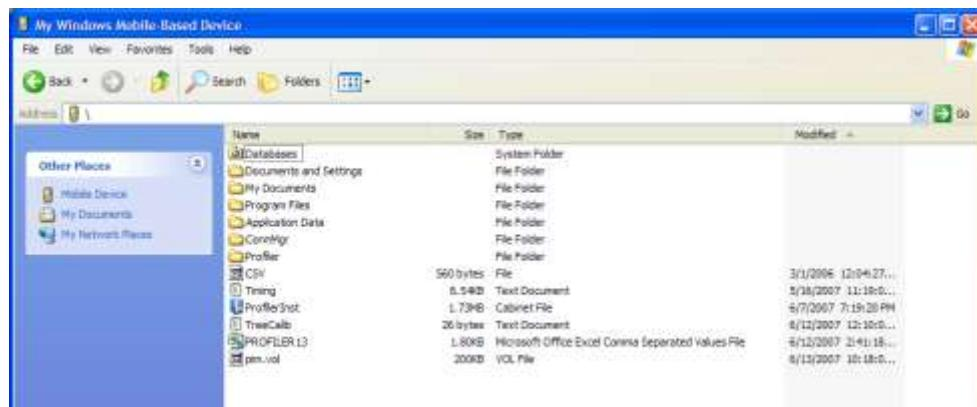

Figure 82: Mobile-device root directory window.
- The user should now select the **My Windows Mobile-Based Device** icon. This will access the PDA Root directory (Figure 82).